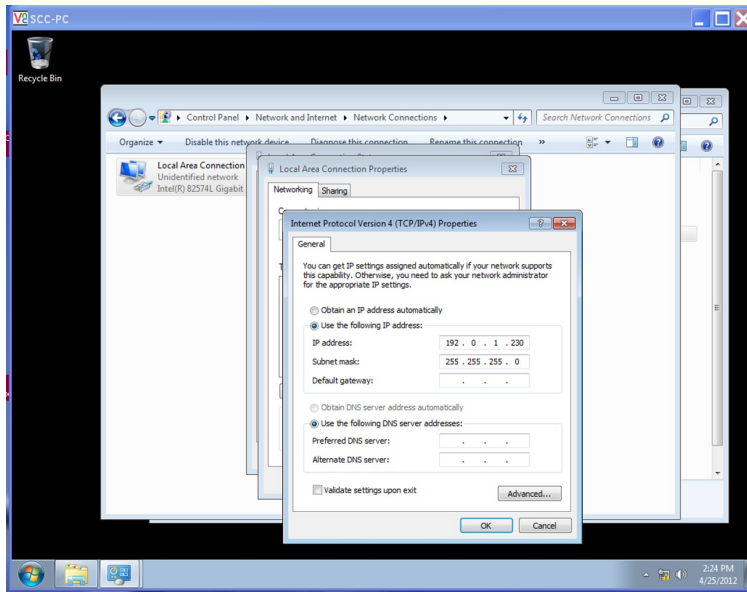

Figure 8 – VNC Viewer Software App, Internet Protocol (TCP/IP) Properties
4.4.4 Select the Internet Protocol icon then click the Properties button, as illustrated above. This will open the Internet Protocol (TCP/IP) Properties window, as illustrated in Figure 8 below.